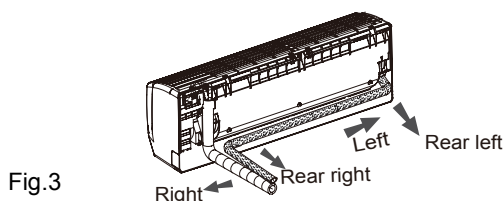

Fig. 3
(1) The pipe can be led out in the direction of right, rear right, left or rear left. (As show in Fig.3)